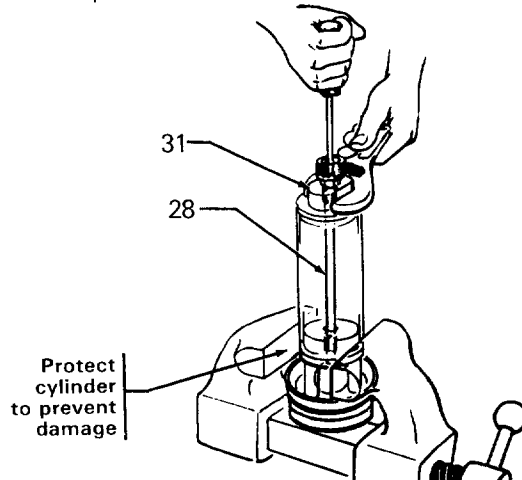

Fig 4
If valves are to be adjusted disassemble pump as explained on page 4 and adjust valves as follows: Place piston in vise as shown in Fig 4, loosen upper displacement plunger (31) to relieve tension on ball stop screw (28). Adjust ball stop screw for desired ball travel and retighten upper plunger cap (31) securely. Refer to Fig 4. Set intake valve pin as desired and reassemble pump.